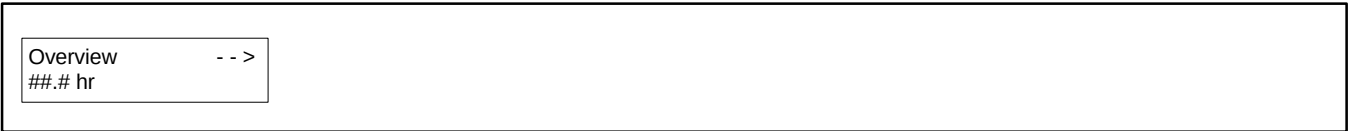

Figure 17 Overview Menu
4. Rotate the selector dial counterclockwise to navigate through the main menus to the Overview Menu as shown in Figure 17.